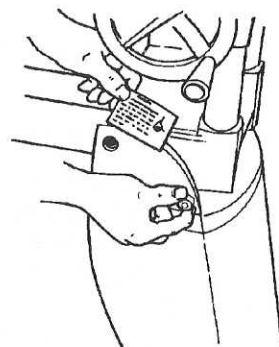
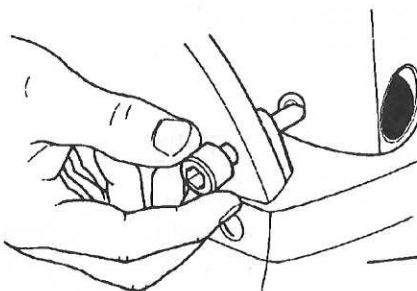

Fig. B-47
Fig. B-48
7. See Fig. B-47. Use your fingers to screw in the base lock (2). Note the base lock is slightly off center to the countersink found in the bench base, as shown in Fig. B-48. This offset allows the base lock to more firmly hold the base in place.